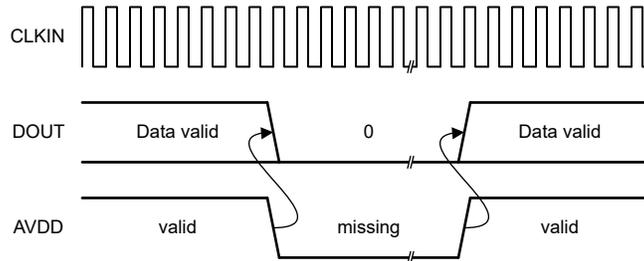

**Figure 7-4. OOK-Based Modulation Scheme**
As shown in Figure 7-4, the AMC0x06M25-Q1 uses an on-off keying (OOK) modulation scheme to transmit the modulator output bitstream across the SiO2-based isolation barrier. The transmit driver (TX) is illustrated in the Functional Block Diagram. TX transmits an internally generated, high-frequency carrier across the isolation barrier to represent a digital *one*. However, TX does not send a signal to represent a digital *zero*. The nominal frequency of the carrier used inside the AMC0x06M25-Q1 is 480MHz.